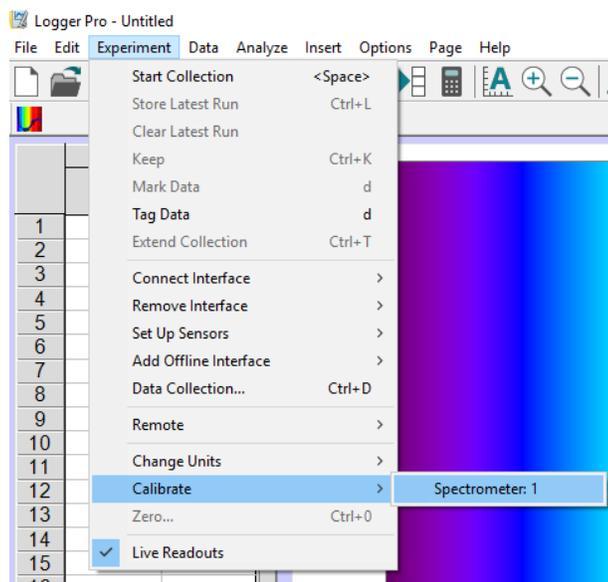

Fig. 2: Spectrometer Calibration
- To calibrate the spectrophotometer, go to the Experiment menu and select Calibrate, then Spectrometer (Fig. 2).